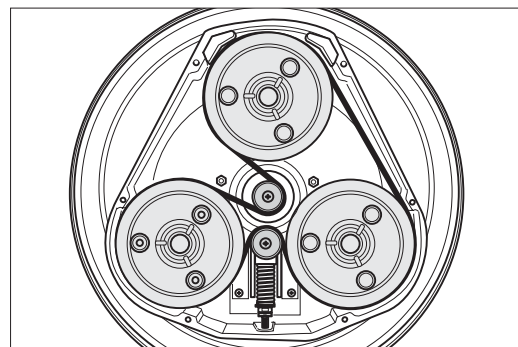

Fig. 41 When the tooth belt tensioner is at the bottom, place the belt loop around the pinion from the left.
**It is important to insert the tooth belt correctly, as otherwise the machine may suffer damage.** When the tooth belt tensioner is at the **bottom**, the belt loop has to be placed around the drive pinion from the **left** (Fig. 41).